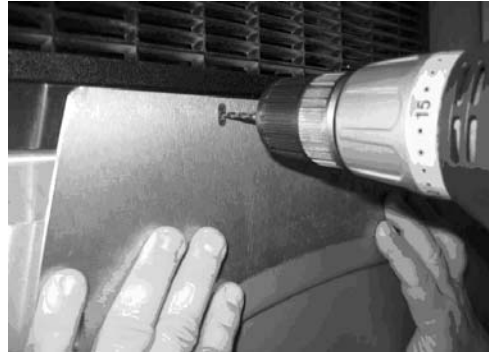

Figure 12
6. Using the plate as a template, drill 9/64in. (0.140 in.) holes in the icemaker base, as shown in Figure 12.